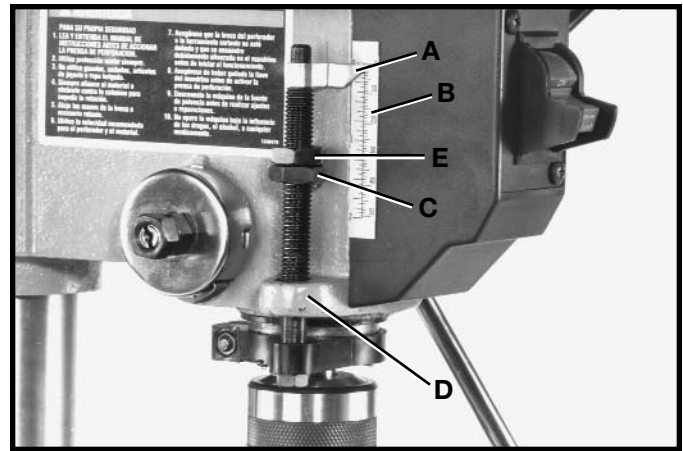

Fig. 28
1. Lower the spindle until the pointer (A) Fig. 28, lines up with the mark on the scale (B) you wish the depth to be. Then thread the lower stop nut (C) down to contact the depth stop (D) on the side of the head. Return the spindle to the up position and tighten the upper stop nut (E) against the lower stop nut (C).
2. Drill a test hole to check the adjustment and readjust if necessary. All holes will be drilled to the depth indicated by the setting of the lower stop nut (C) Fig. 28, as it contacts the depth stop (D) when the spindle is lowered.